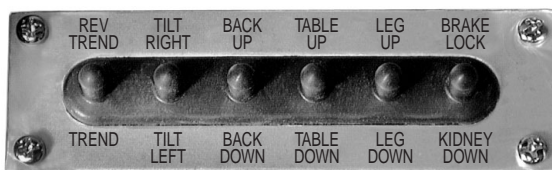

**Figure 2-15. Emergency Controls Location**
a. The emergency back-up control switches are located under the access door on the service access cover in the table base. See figure 2-15.